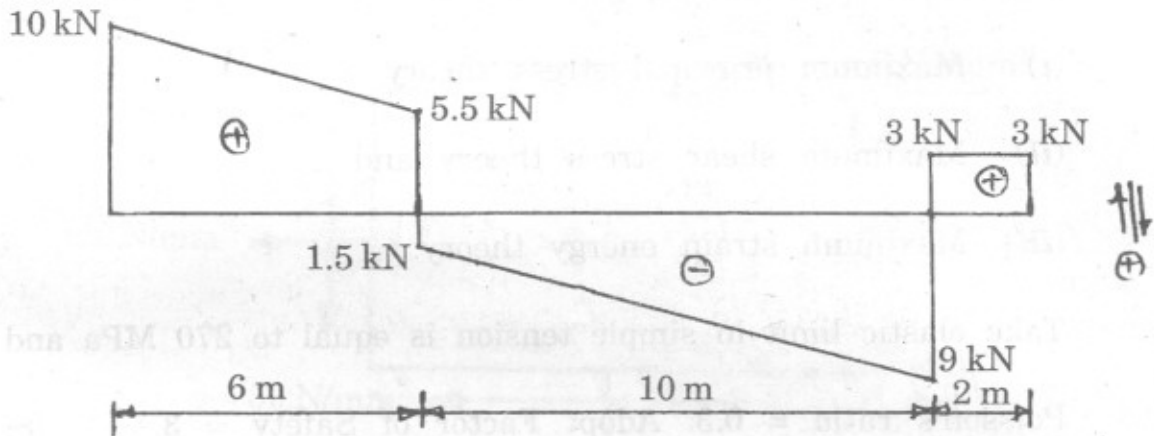

Fig. 4
- (b) Fig. 4 shows the Shear Force diagram for a beam which rests on two supports one of them is at left end. Draw the Loading diagram and Bending moment diagram and also find the position of second support. [8]